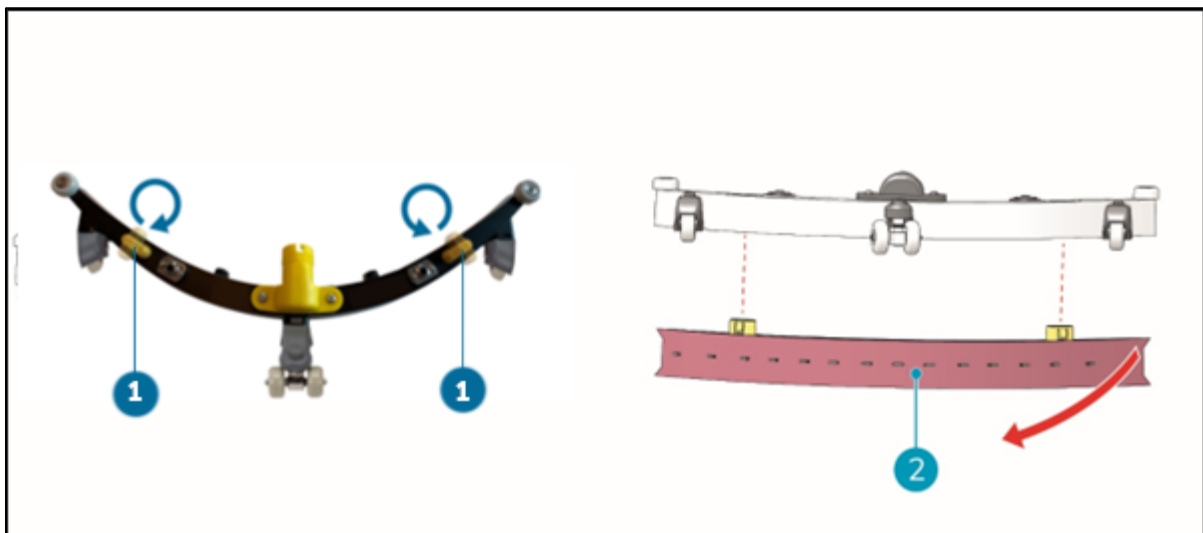

Figure 30
2. When the unit has been removed from the scrub deck, turn simultaneously the two yellow knobs on the top of the squeegee-unit to align the surface of the squeegee (Figure 30, pos. 1). The squeegee blades holder will detach from the squeegee blade unit. Now the squeegee blades are exposed.
3. Pull the front and rear rubber squeegee blades from the metal nobs of the holder (Figure 30, pos. 2).